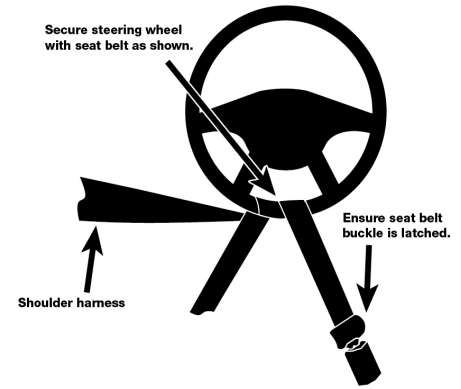

Figure 9
- ❑ The vehicle-in-tow steering wheel **must be locked or restrained**, with front tires straight ahead. If the vehicle is not equipped with locking steering column the steering wheel will have to be tied securely. Steering wheel can be secured by wrapping the driver seatbelt around the steering wheel bottom rim, then removing slack from seatbelt and connecting latch to buckle. (Figure 9)